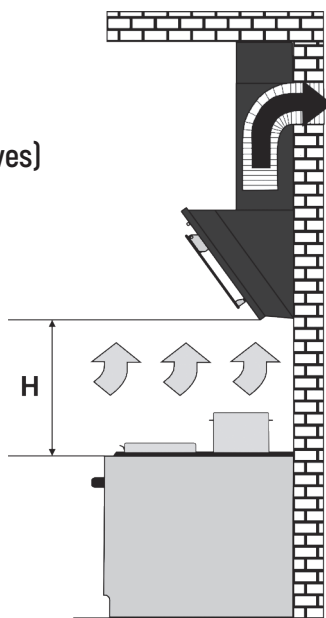

Fig. 1
4.5 When the cooker hood is installed above a stove at appropriate **installation height H (Fig. 1)** use an air **duct Ø150 / Ø120 mm** to exhaust air into a chimney. Lesser diameter will cause an additional resistance to air leading to increased noise, vibration and motor overheating.
- ☒ air exhaust into a kitchen chimney (Fig. 1);